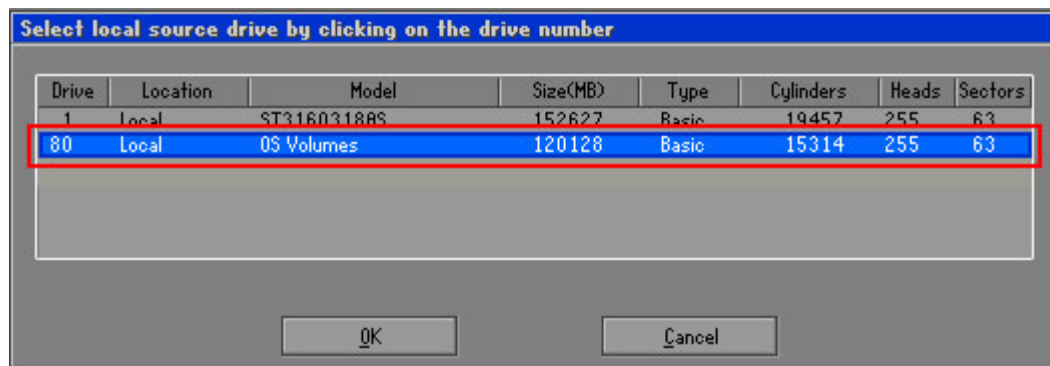

Figure B-11: Select a Local Source Drive
Step 5: Select the local source drive as shown in Figure B-11. Then click OK.